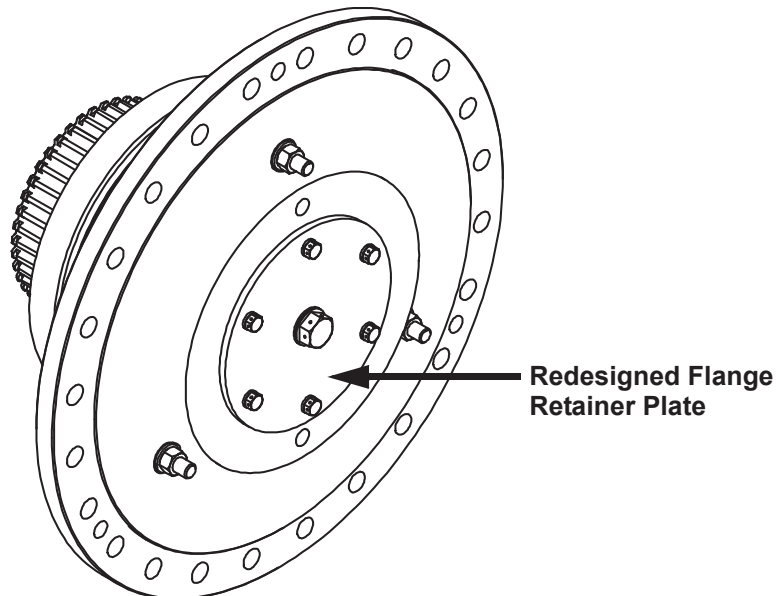
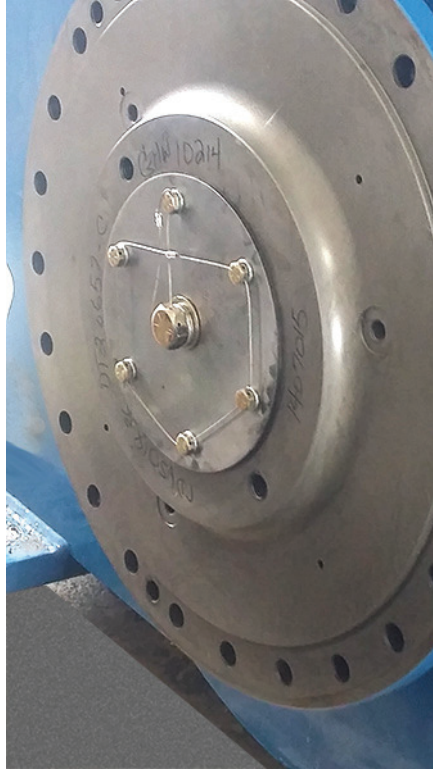

Figure 3: Flange Retainer Safety Wire Kit (Safety Wire Not Shown)
Figure 4: Flange Retainer with Safety Wire
10. Replace with the AY19080 Flange Retainer Safety Wire Kit. (See Figure 3 and Figure 4 on page 6).
11. On the ODS pedestal unit, remove the flat head socket head bolts (6) and flange retainer plate. (See Figure 3 on page 5).